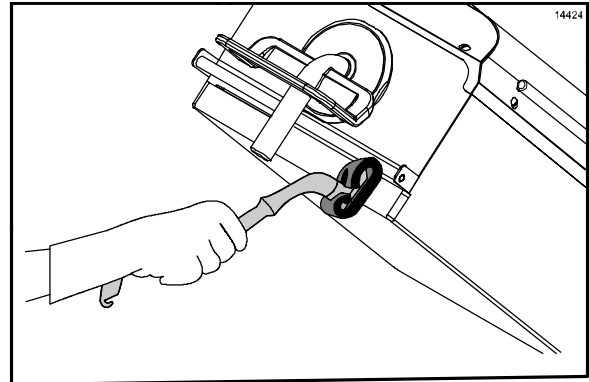

Figure 87
15. Apply **McD Hi-Temp Grill Cleaner (HTGC)** to the front side of the platens, starting from the right platen to the left platen. (See Figure 87.)